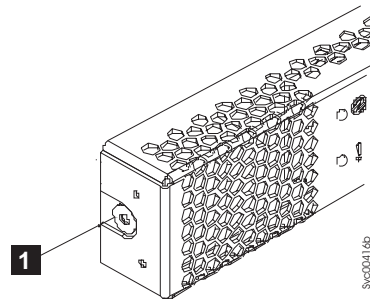

Figure 71. Left release button of a 2145-CG8 or 2145-CF8 service controller
5. Locate the recessed, blue service-controller release buttons on each side of the controller. See Figure 71.